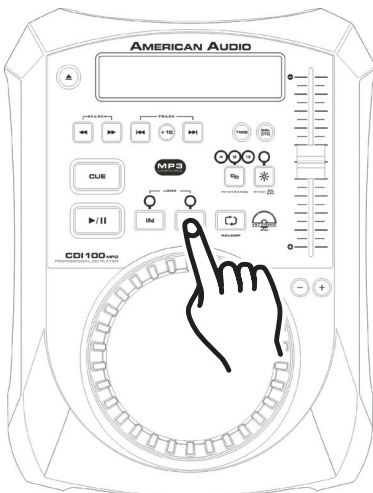

Figure 16
- 3) Press the *OUT BUTTON (10)* to set the ending point for your LOOP (Figure 16). The *IN BUTTON (10)* and *OUT BUTTON (10)* LEDs will immediately begin to flash rapidly, indicating the LOOP mode has been activated.